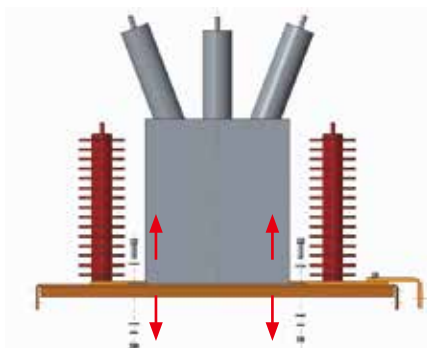

Figure 7.9: Remove the fixed bolts
- Remove the fixed bolts on both sides of the mounting bracket of the surge capacitor (See figure 7.9)